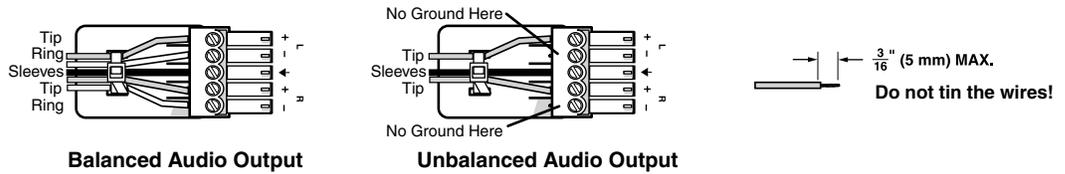

Figure 5. Audio Output Connector Wiring
- ⑪ **Fixed audio output connector** — Connect an audio device to this female 5-pole 3.5 mm captive screw connector for balanced or unbalanced fixed audio output. This output is not affected by tone control; however, it is affected by gain, attenuation, and audio delay. Wire the connector as shown in figure 5, above.
- ⑫ **Reset LED** — This green LED lights steadily while power is on. While the reset button is being pressed and held, it blinks the number of times to indicate the reset mode.
- ⑬ **Reset button** — Using a small screwdriver, pointed stylus, or ballpoint pen, press this recessed button for manual resets. The unit has four modes of reset (see “**Resetting**” on page 40 for additional information).
- ⑭ **LAN connector** — Plug an Ethernet cable into this RJ-45 jack to connect the unit to a computer network. Ethernet control allows you to configure and control the scaler from a remote location using SIS commands, the SPPCP software, or the embedded web pages. When connected to an Ethernet LAN or WAN, the DVS can be accessed and operated from a computer running a standard Internet browser.